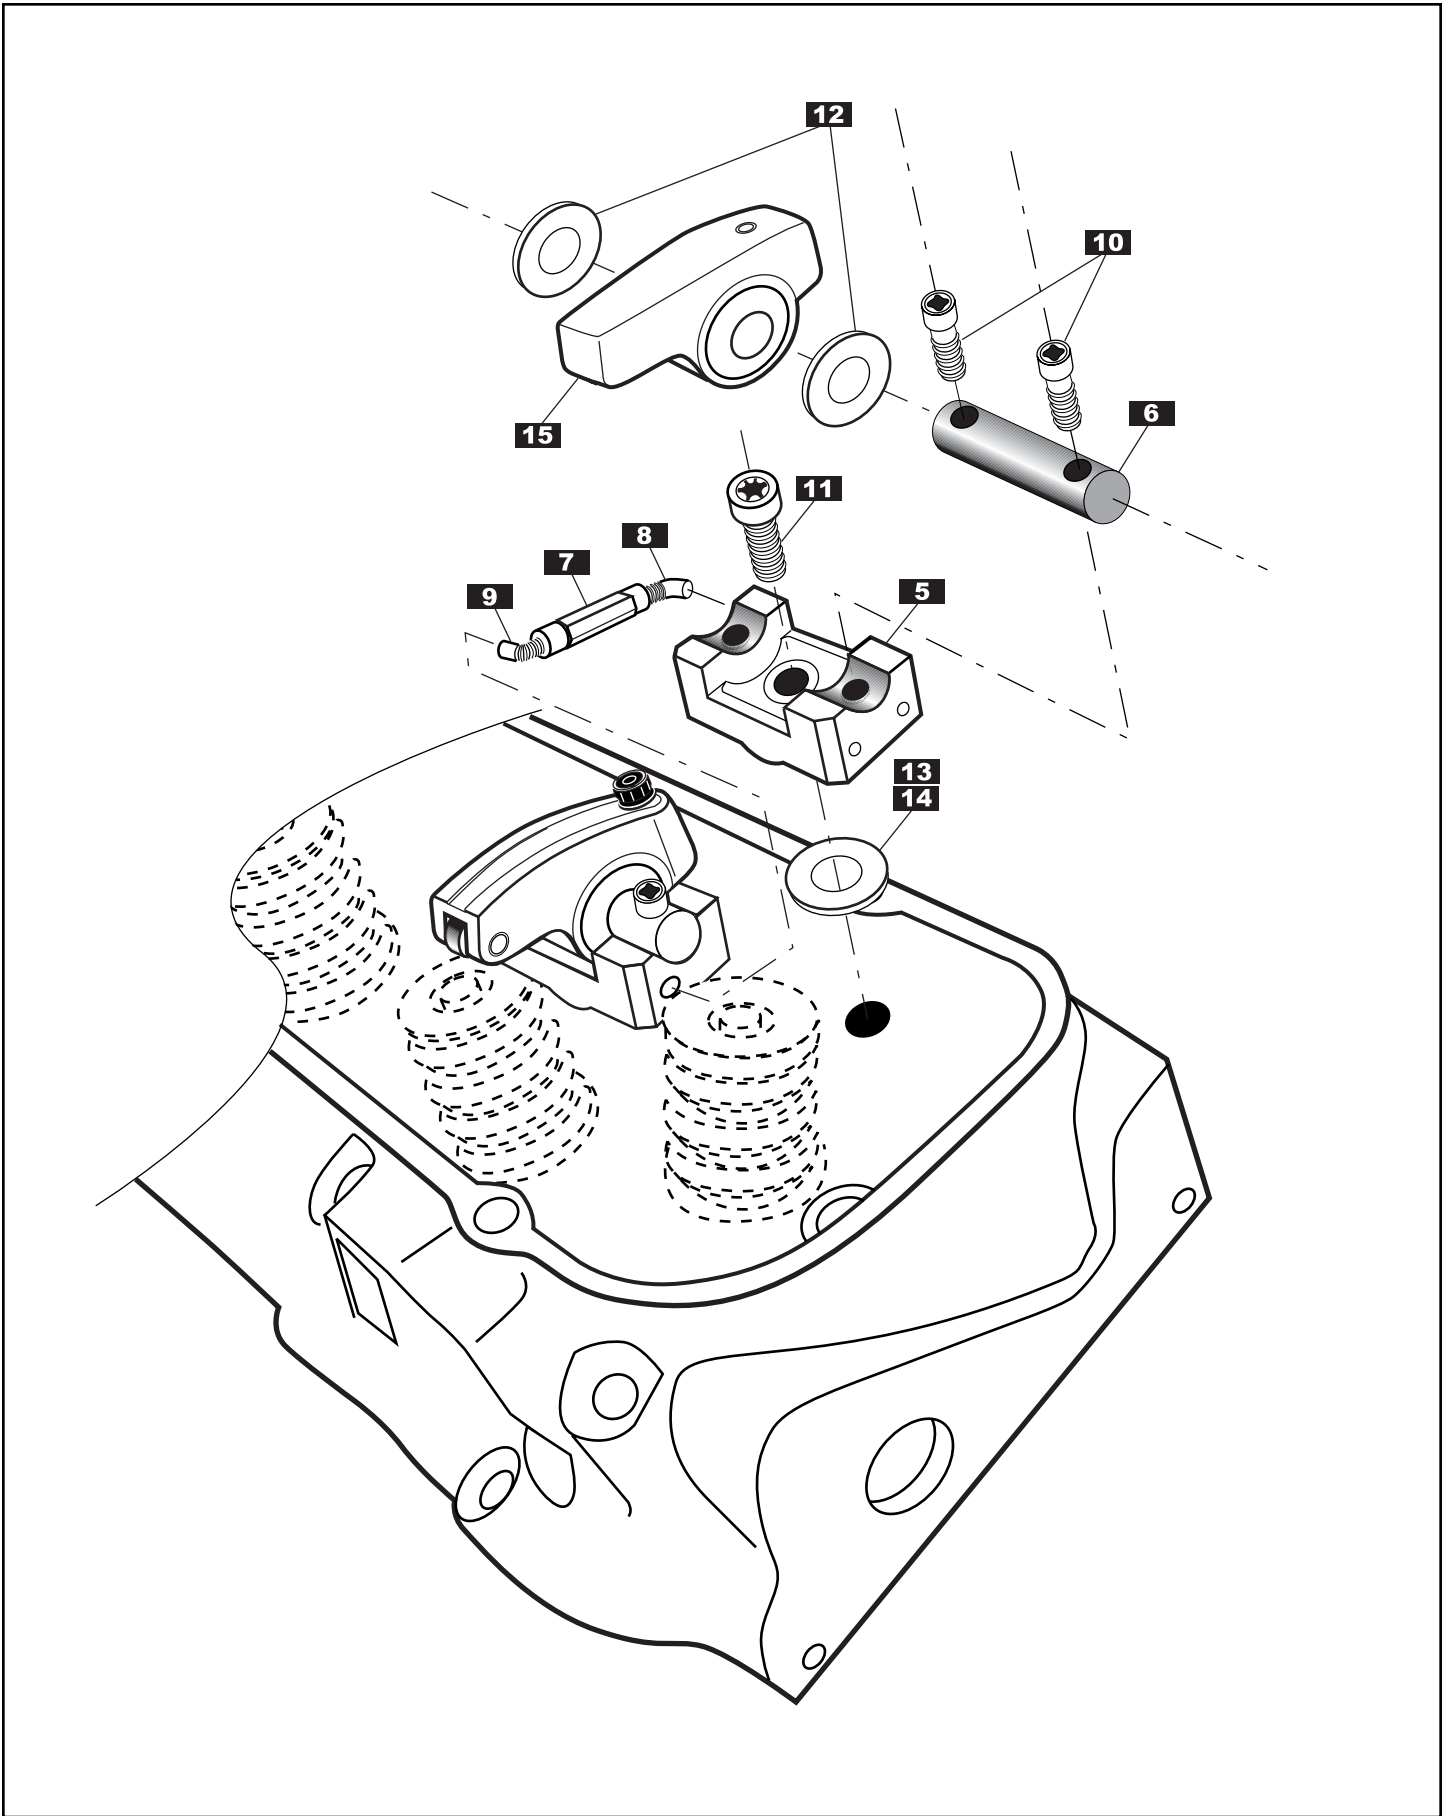

Figure 2.
3. All of the shaft-mount stands and rocker arms in this kit are the same. (There are no "intake only" or "exhaust only" stands or rockers.) Check the fit of the shaft-mount stands (Item 5, Figure 2) on your cylinder heads. On a few heads, there might be a slight amount of interference between the bottom of the stand and the top of the intake runner. It is acceptable to remove enough metal from the bottom and side edge of the stand to eliminate this interference. Remove only enough metal to provide a stable stand mount against the head. If you have any questions on the fit of a stand or how much material you can remove, contact the Crane Technical Service Department at 1-386-258-6174.
3. Install the **"geometry-checking fixture"** (Item #15 on the parts list, Part # 7886B) onto a shaft and bolt the shaft to the exhaust stand. Lightly snug the shaft to the stand with two #45 6-lobe stand mounting bolts. (See Figure 2). Gently slide the **"geometry-checking fixture"** adjacent to the valve or over the valve. The stand is at the proper height if the tip of the valve is within + or - .030" of the bottom of the **"geometry-checking fixture"** as shown in
5. Assemble the "turnbuckle" adjusters by threading a "right-hand thread" hook into one end of the turnbuckle and a "left-hand threaded" hook into the "left-hand" end of the turnbuckle (the left-hand end and the left-hand hooks are identified by an identifying line on the end of the turnbuckle and hook). See Figure 2. The turnbuckle/hook assemblies allow precise alignment of the rocker arm nosewheel with the valve stem. When the rocker stands are tightened to specifications (later in the installation instructions), the turnbuckle assemblies will tighten and not be adjustable.